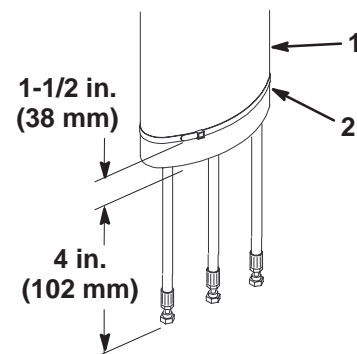

Figure 3
5. Using the dimensions shown in Figure 3, position and secure each end of protective sleeve to hoses with a cable tie.